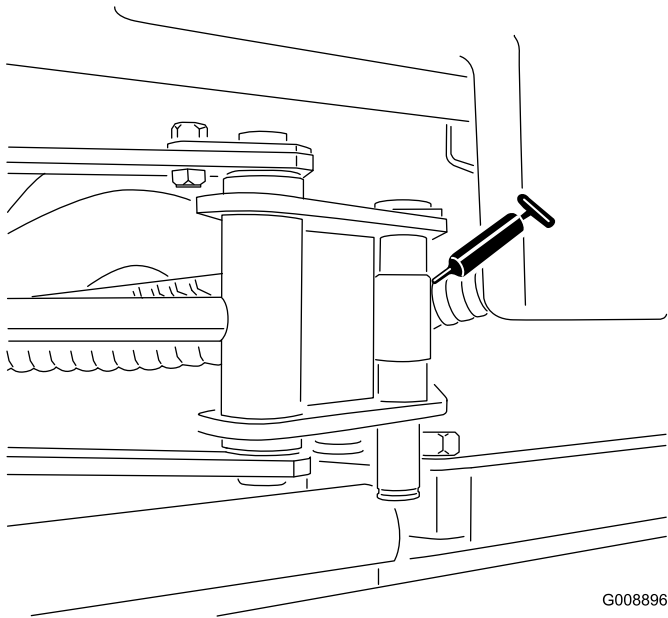

Figure 52
- SideWinder cylinder ends (2; Model 03170 only) (Figure 52)